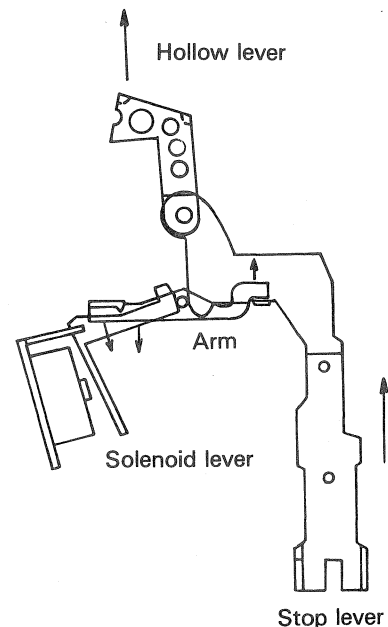
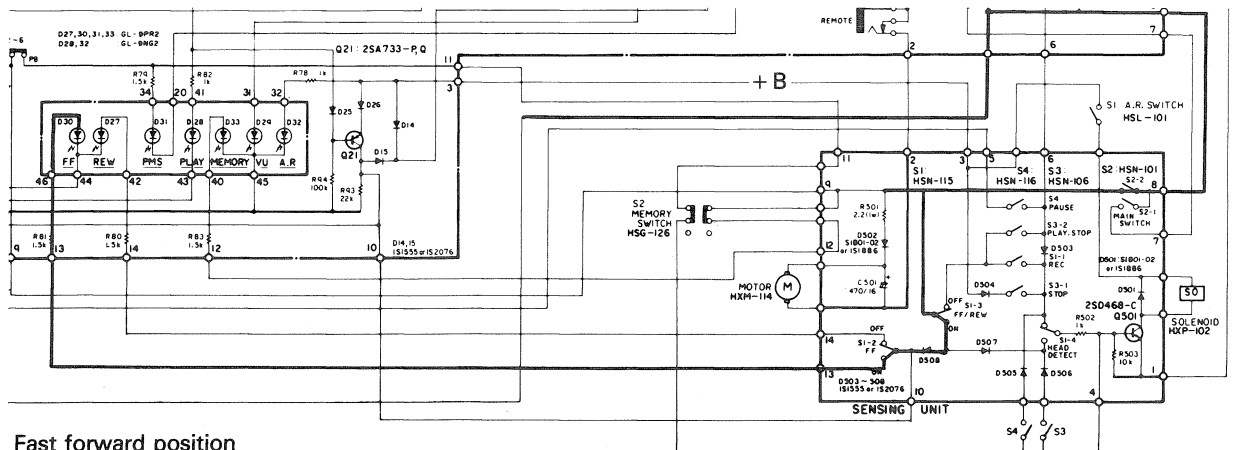
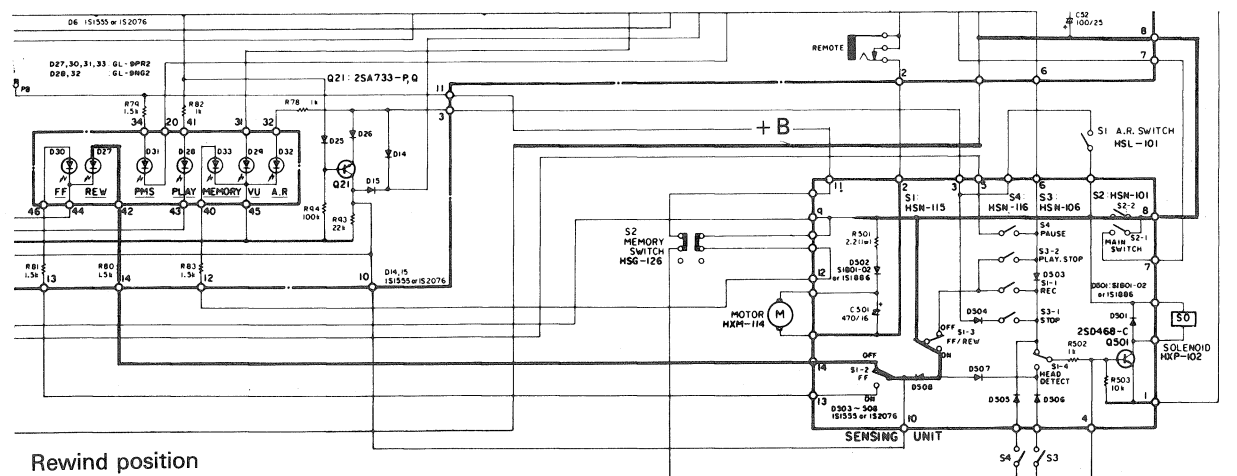

Fig. 7
Fig. 9
Fig. 10
Refer to Photos 11 and 12 and to Fig. 7.
The lever is coupled to the stop lever. When the stop lever is raised (same as depressing the stop button), the arm between the stopper lever and the solenoid lever operates as in Fig. 7. Operation is as per steps 1, 2 and 3 in Fig. 7. However, this arm's center is coupled to lever 1 on the rear and so it moves up and down in accordance with the movement of lever 1. This is why the arm releases the solenoid lever only during the play mode.
- 2-5. The tape stops traveling. Refer to Fig. 7.
3. Fast forward (FF) and rewind (REW)
- 3-6. The FF/REW switch (S1-3) and FF SW (S1-2) are for the indicator lighting. Refer to Fig. 9 and Fig. 10.